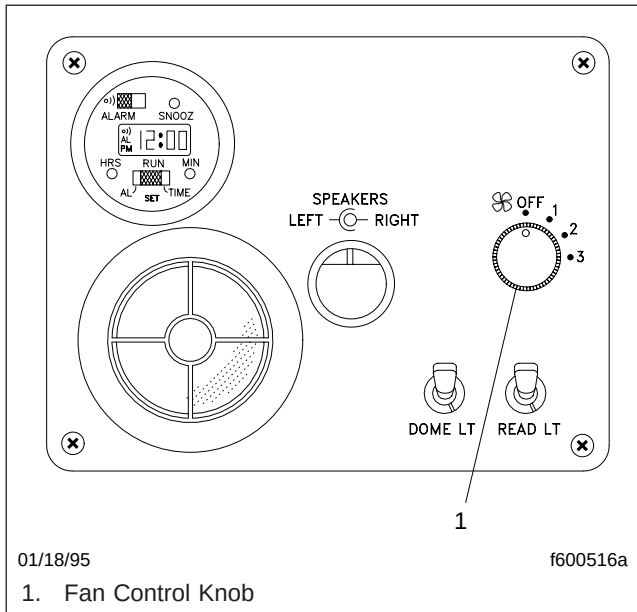

Fig. 4.10, Control Panel for Manual Temperature Control System
- If equipped with the manual temperature control, do the following (Fig. 4.10):